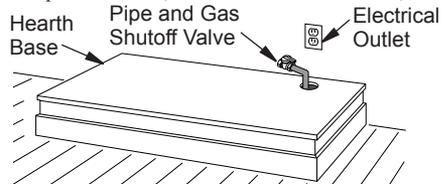

Figure 11 - Placing Hearth Base Against Wall
2. If blower is installed, install a properly grounded, 120 volt three-prong electrical outlet at fireplace location if an outlet is not there. If possible, locate outlet so cabinet mantel will cover it when installed (see Figure 11).
3. Place hearth base against wall at installation location. Cut an access hole in hearth base to run gas line to fireplace (see Figure 11). Make sure to locate access hole so cabinet mantel will cover it when installed. **Note:** You can secure base to floor using wood screws. Countersink screw heads and putty over.